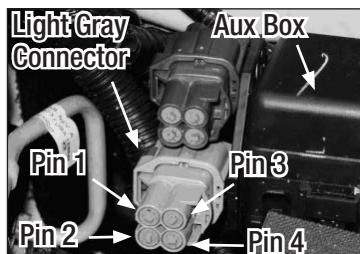

Figure 35
4. Light Gray 4 PIN Connector (**Fig. 35**).